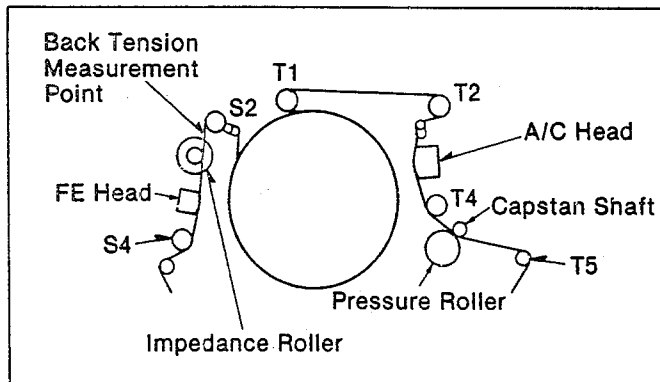

Fig.T1
- (1) Remove the Impedance Roller.
- (2) Insert the cassette tape and playback the tape.
- (3) Insert the Tension Meter to Mechanism as shown Fig.T1.